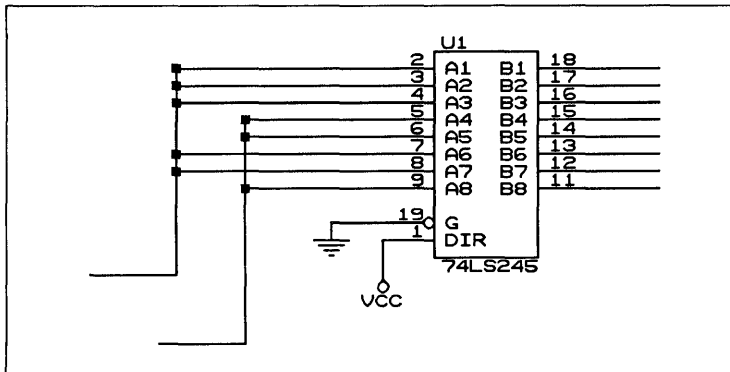

Figure 22-2. Example circuit for Check Electrical Rules (without 74LS00).
**Example** The following example shows the type of errors **Check Electrical Rules** looks for in schematic sheets. Figure 22-2 shows a schematic sheet containing a 74LS245 part from the TTL.LIB library. Notice pins 2, 3, 4, 7, and 8 are tied together and pins 5, 6, and 9 are tied together. These connections are electrically sound because pins 2 through 9 are bidirectional (I/O) type pins. Though this may not be a particularly useful circuit, it doesn't violate any electrical rules, so **Check Electrical Rules** doesn't report any errors.